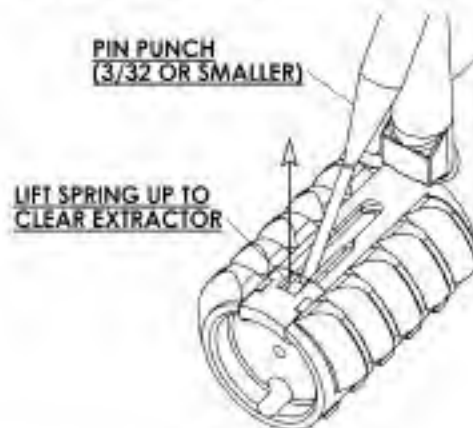

Figure 13.
1. Using a 3/32 or smaller punch, gently lift the end of the extractor spring away from the extractor. Lift the spring just enough for it to clear the extractor. (Figure 13.)